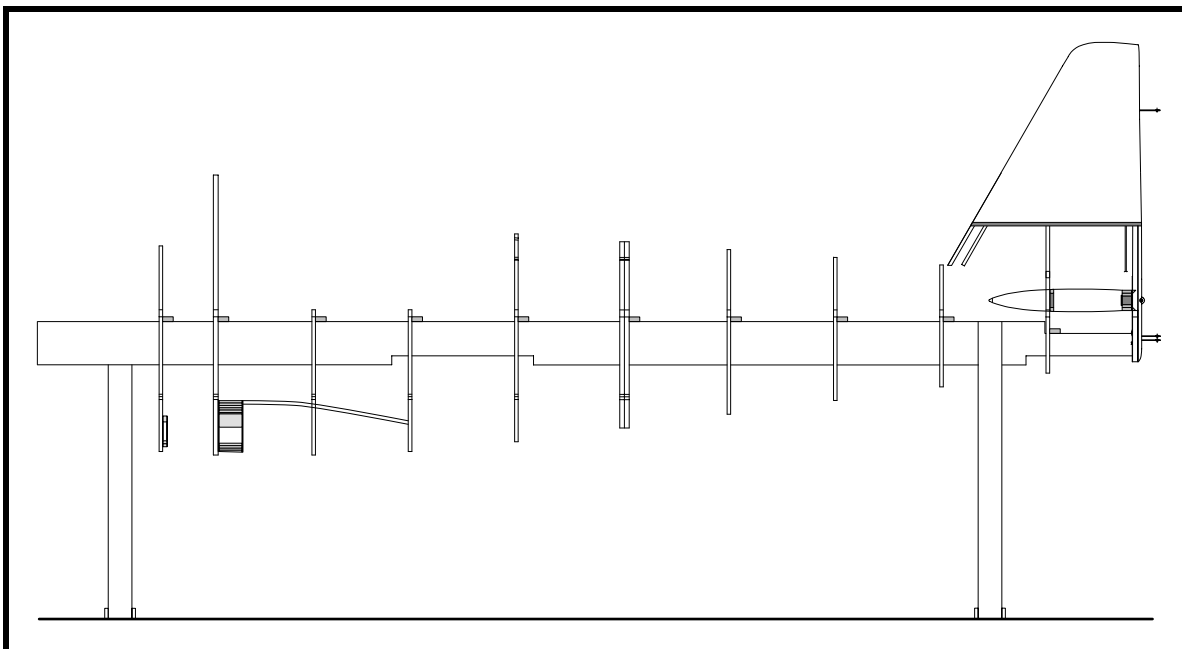

Figure 12
- ❑ Install the tail assembly on the fuselage jig. See Figure 12.